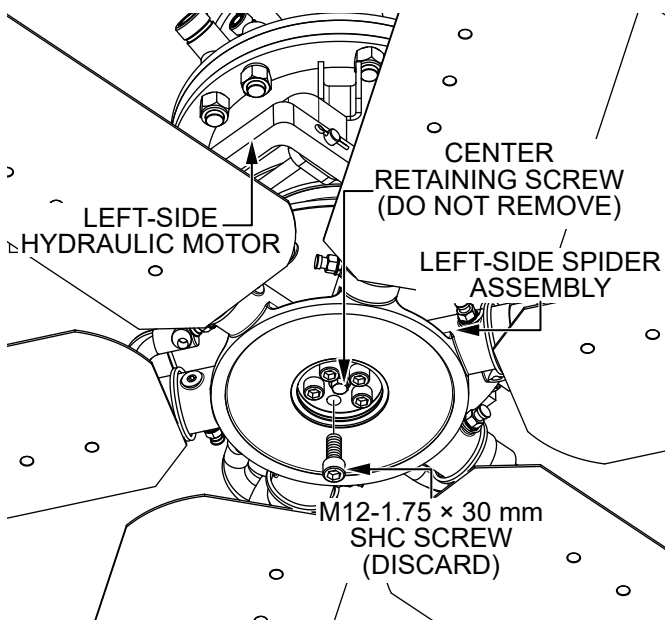

Figure 6. Remove Left-Side Spider Screws
2. Remove and discard the five existing M12-1.75 × 30 mm SHC screws (Figure 6) securing the left-side spider assembly to the bottom of the left-side hydraulic motor.